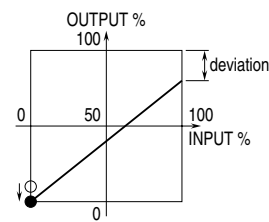

Fig. 8
4) With 0% input, adjust the output to 0% with Zero adjustment. See Figure 8.